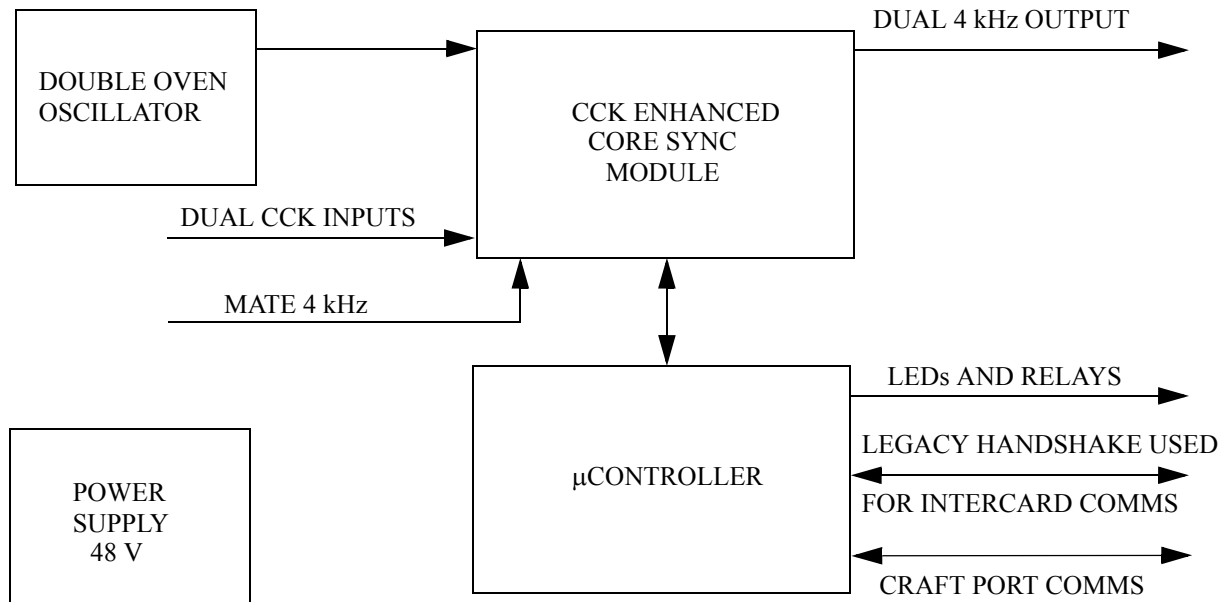

Figure 2. RTHC Block Diagram
3.01 The RTHC is divided into three main sections: Microprocessor, Double Oven Oscillator, and CSM. Refer to the RTHC block diagram in Figure 2.